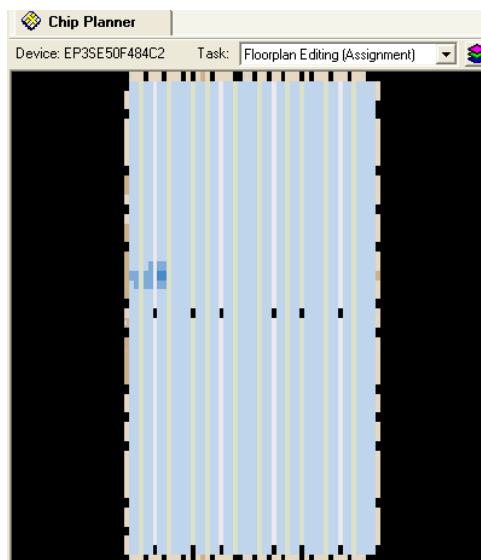

Figure 22: View of the floorplan.
5. An indication of where the circuit is implemented on the chip is available by selecting Tools > Chip Planner(Floor Plan and Chip Editor), or by clicking the icon . Figure 22 depicts the result, highlighting in color the logic elements used to implement the circuit. To make the image appear as shown you may have to select View > Fit in Window (shortcut Ctrl-w), and it can be expanded to fill the screen by clicking the Full Screen icon .